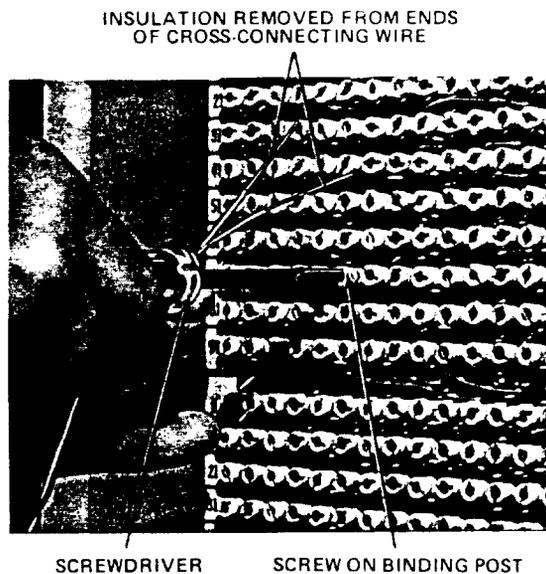

Figure 13. Terminating Cross-Connecting Wire on Distribution Field
- 4.02 Terminate the cross-connecting wire on the distribution field as follows (Figure 13):